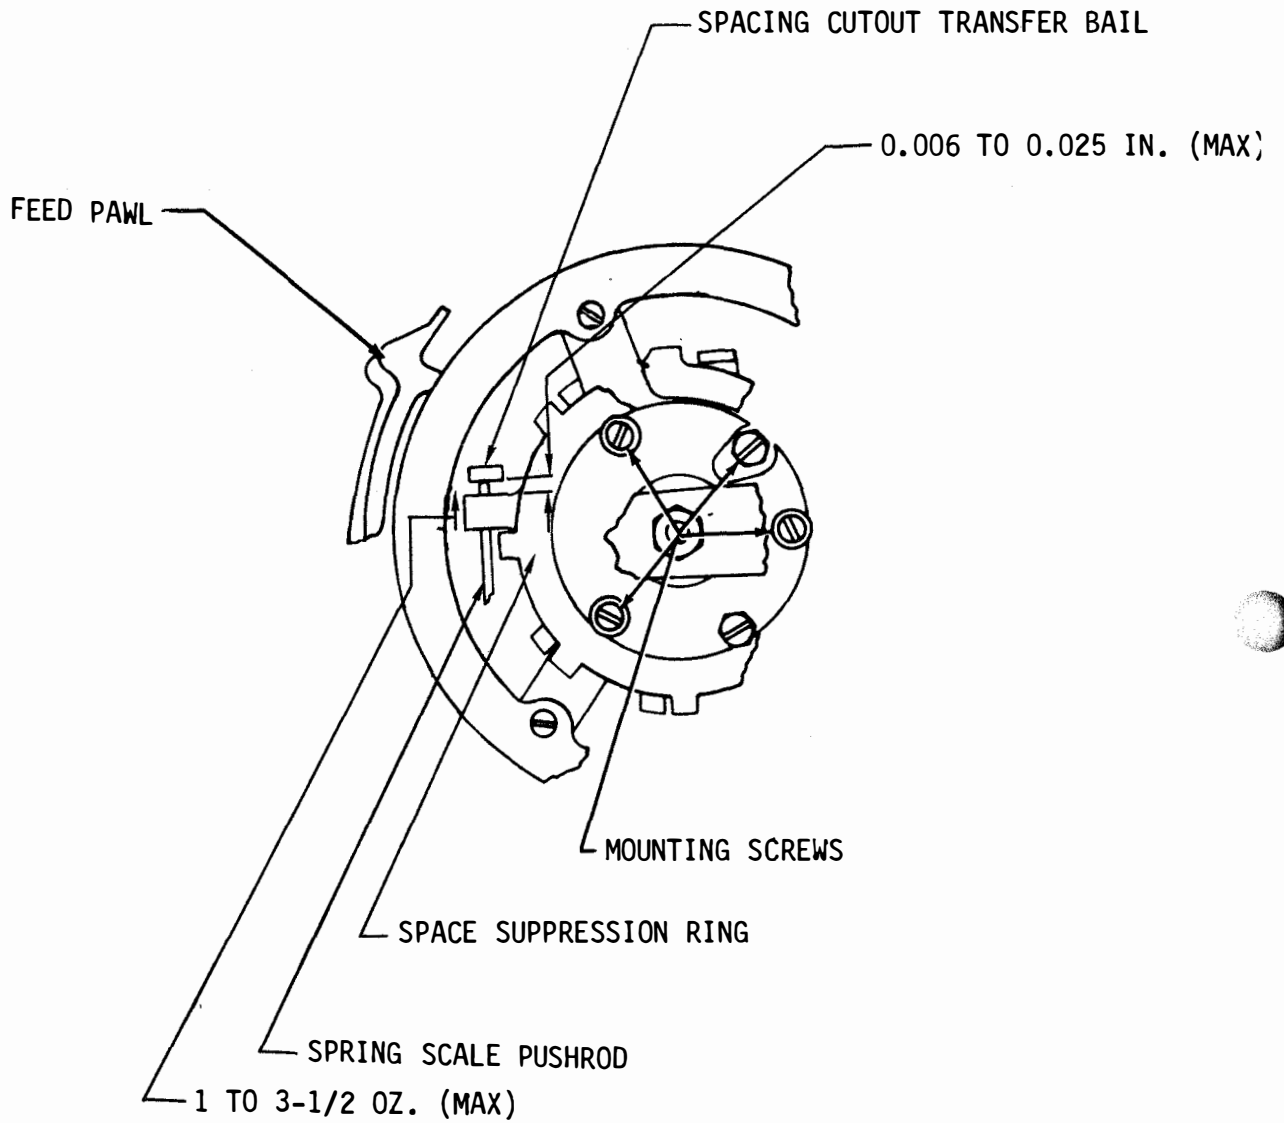

Figure 6-46. Right Margin and Spacing Cutout Transfer Bail Spring, Front View
- (a) Refer to Figure 6-46.
(20) Spacing Cutout Transfer Bail Spring. Adjust as follows: